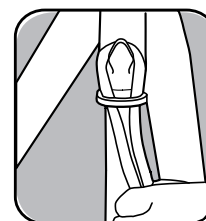

Fig. 3
2. Pull down on the power cord to remove any slack (Fig. 3).